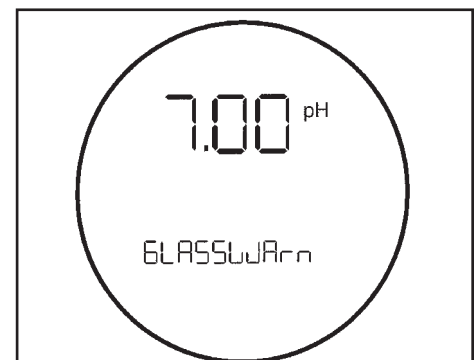

FIGURE 12-1. Warning Annunciation
2. A warning message appears alternately with the temperature/output display. See Figure 12-1. See Section 12.4 for an explanation of the different warnings and suggested ways of correcting the problem.